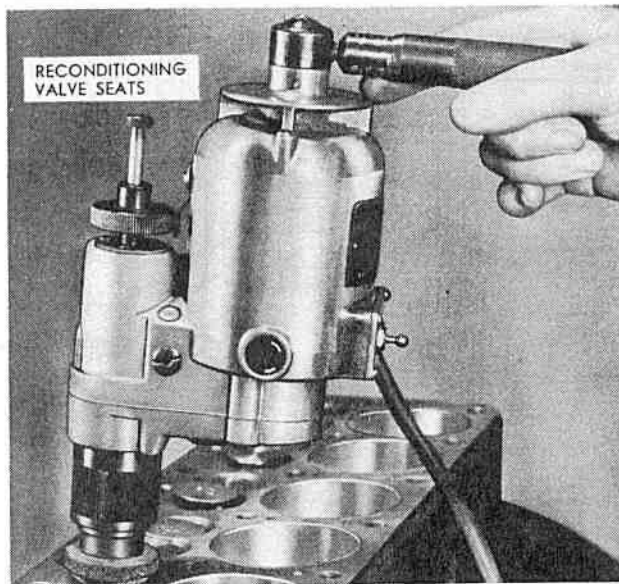
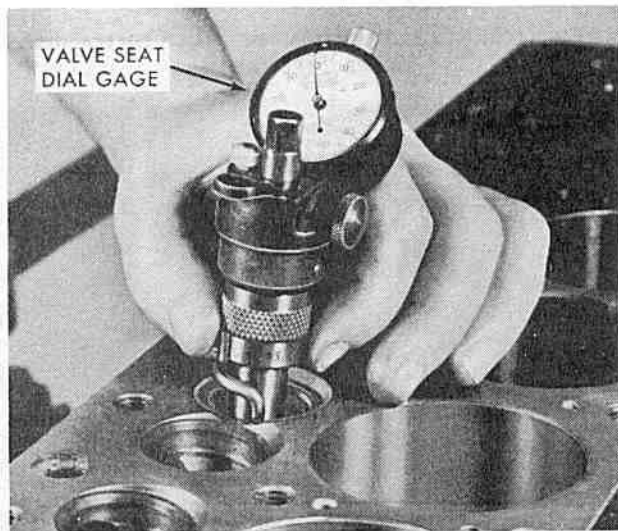

FIG. 165
FIG. 166
**CHAMPION AND COMMANDER** Use an accredited valve grinder to recondition the valve seats (see Fig. 165). All valve seats should be ground to an angle of 45 degrees and the width of the seats maintained at 3/32" (2,381 mm.) After reconditioning the valve seats, inspect them for runout with a valve seat dial gage (see Fig. 166).